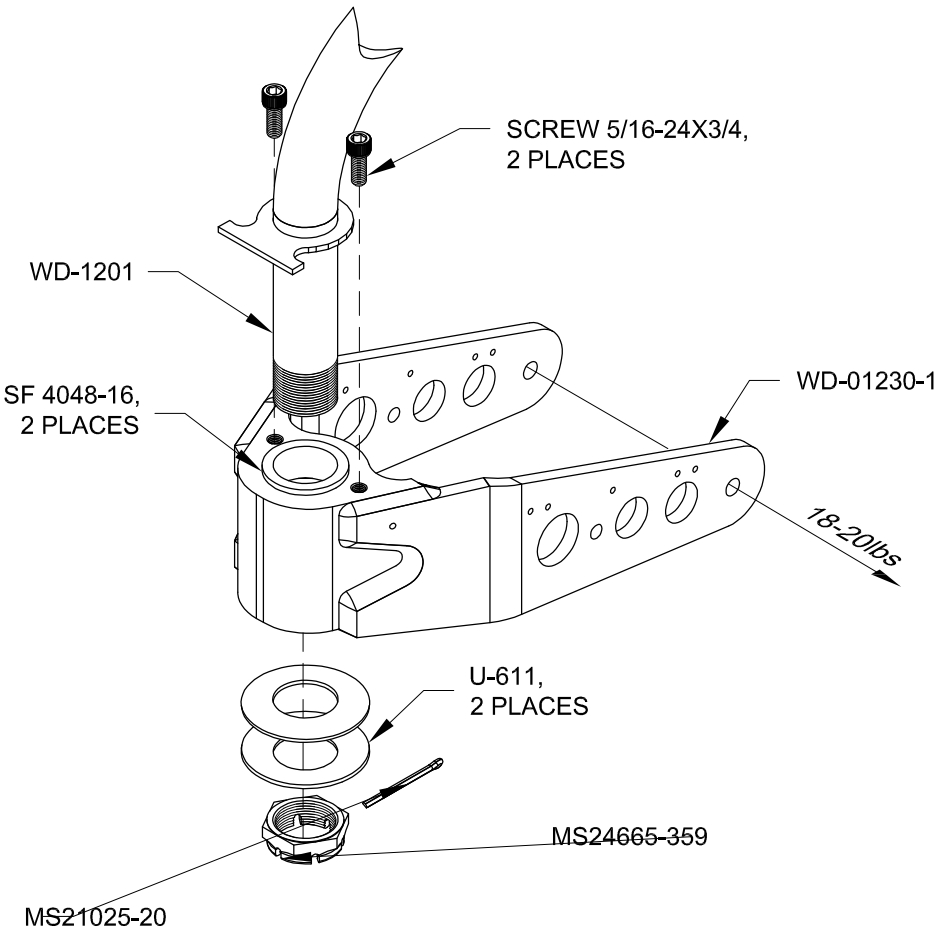

FIGURE 2: INSTALLING THE NOSE FORK ASSEMBLY
Step 2: Apply Loctite #243 to the threads of the 5/16-24X3/4 screws. Install the screws into the WD-01230-1 Nose Fork as shown in Figure 2.
Step 4: Thread safety wire through the bolt holes used to secure the Nose Wheel and Tire Assembly to the Nose Fork Assembly, then attach a spring scale to the end of the safety wire. Tighten the MS21025-20 Nut until a force of 18-20 lbs is measured as the Nose Fork Assembly pivots around the spindle. Use the nut as a drill guide and drill #30 both sides of the nose gear leg for the cotter pin. Deburr as required then secure the nut with the cotter pin called-out in Figure 2.